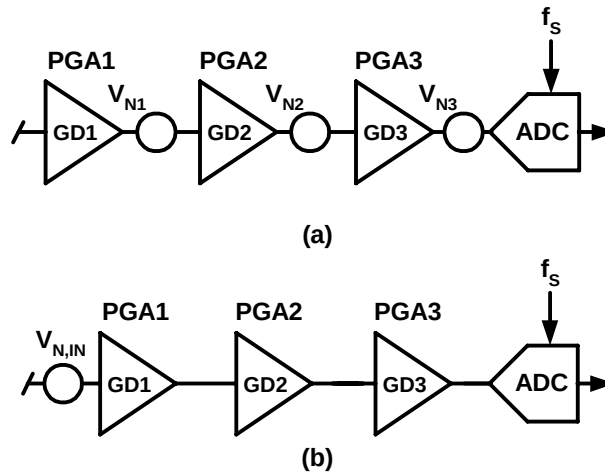

Figure 16-18. (a) Simple noise model for PGAs and ADC and (b) total input referred noise
- Figure independent from PGA1 gain and sampling frequency f_s . See model of Figure 16-18(a). See equation Eq. 21 to calculate equivalent input noise.
- Figure independent on PGA2 gain and sampling frequency f_s . See model of Figure 16-18(a). See equation Eq. 21 to calculate equivalent input noise.
- Figure independent on PGA3 gain and sampling frequency f_s . See model of Figure 16-18(a) and equation Eq. 21 to calculate equivalent input noise.
The simple noise model of Figure 16-18(a) is used to estimate the equivalent input referred rms noise $V_{N,IN}$ of the acquisition chain in the model of Figure 16-18(b). This is given by the relationship:
Note: see noise model of Figure 16-18 and equation Eq. 21.